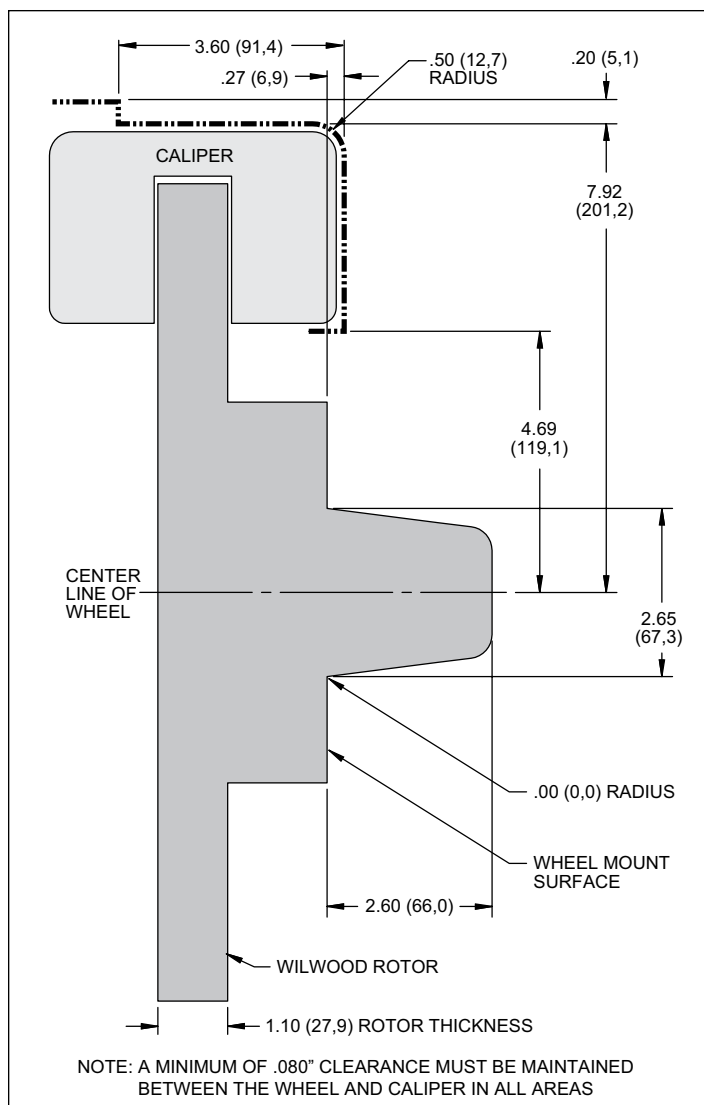

Figure 3. Wheel Clearance Diagram
- Review the Wheel Clearance Diagram (Figure 3, page 5) to verify that there is adequate clearance with the wheels you will be using with the installation.
- Verify your wheel clearance using Figure 3.